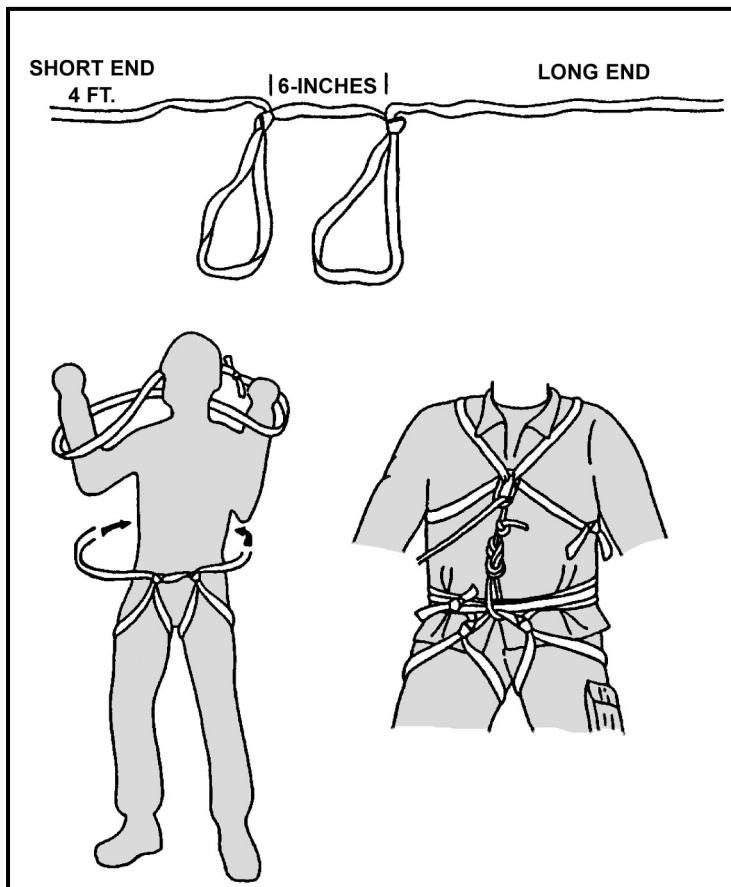

Figure 6-20. Improvised seat and chest harness.
(2) The bowline-on-a-coil is a safe and effective method for attaching to the rope when the terrain is low-angled, WITHOUT THE POSSIBILITY OF A SEVERE FALL. When the terrain becomes steeper, a fall will generate more force on the climber and this will be felt through the coils of this type of attachment. A hard fall will cause the coils to ride up against the ribs. In a severe fall, any tie-in around the waist only could place a “shock load” on the climber’s lower back. Even in a relatively short fall, if the climber ends up suspended in mid-air and unable to regain footing on the rock, the rope around the waist can easily cut off circulation and breathing in a relatively short time.
(3) The climbing harness distributes the force of a fall over the entire pelvic region, like a parachute harness. Every climber should know how to tie some sort of improvised climbing harness from sling material. A safe, and comfortable, seat/chest combination harness can be tied from one-inch tubular nylon.
c. **Improvised Seat Harness.** A seat harness can be tied from a length of webbing approximately 25 feet long (Figure 6-20, page 6-30).
(1) Locate the center of the rope. Off to one side, tie two fixed loops approximately 6 inches apart (overhand loops). Adjust the size of the loops so they fit snugly around the thigh. The loops are tied into the sling “off center” so the remaining ends are different lengths. The short end should be approximately 4 feet long (4 to 5 feet for larger individuals).
(2) Slip the leg loops over the feet and up to the crotch, with the knots to the front. Make one complete wrap around the waist with the short end, wrapping to the outside, and hold it in place on the hip. Keep the webbing flat and free of twists when wrapping.
(3) Make two to three wraps around the waist with the long end in the opposite direction (wrapping to the outside), binding down on the short end to hold it in place. Grasping both ends, adjust the waist wraps to a snug fit. Connect the ends with the